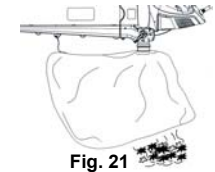

Fig. 21
3. Gently shake bag to ensure it is empty. (Fig. 21)